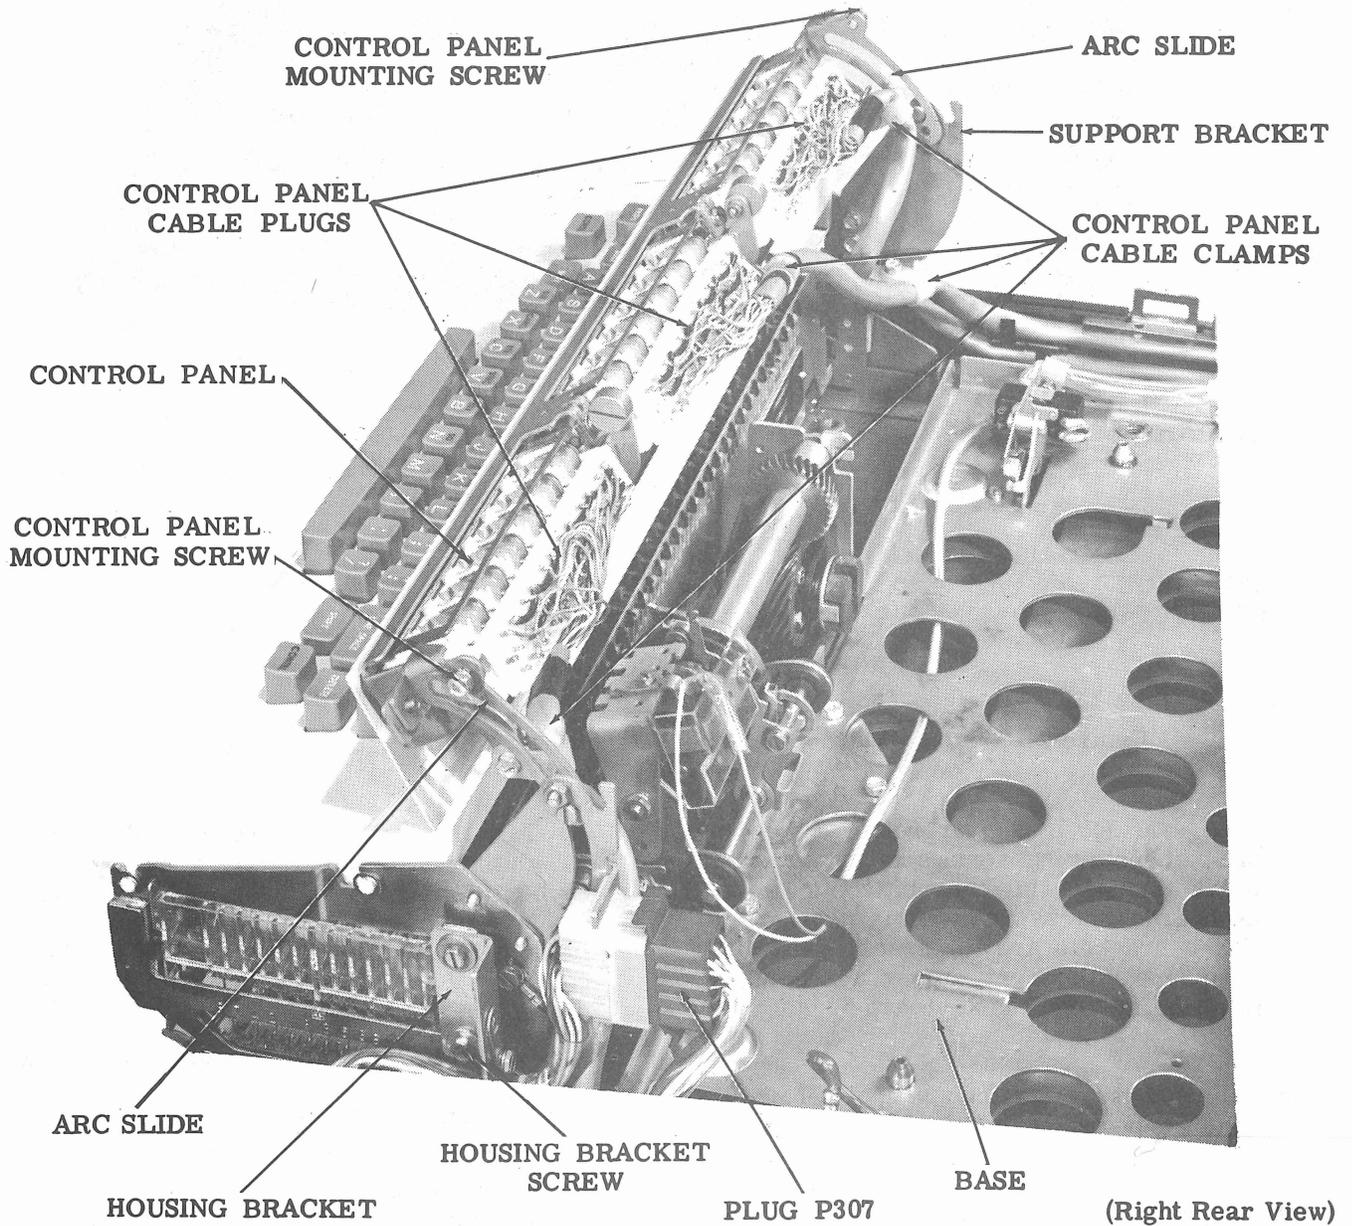

Figure 6 - Control Panel and Keyboard
2.11 To remove the keyboard reset mechanism from the base, proceed as follows (Figure 6 and 7).